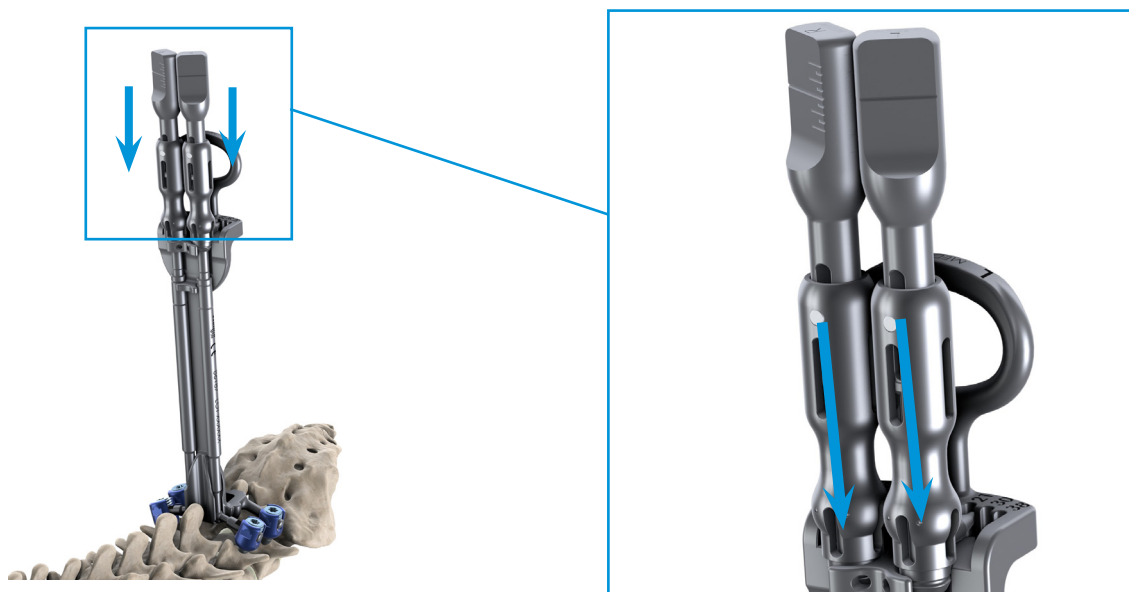

Figure 24: Slide down on the collar of each Superior Crossbar
- iii. Slide down on the collar of the Superior Crossbar until it locks into an IPD slot on the Gauge Handle with a clicking sound. The IPD numbers correspond to the size (21, 30, 38) of the TOPS Motion Implant (Figure 24). Place and tighten the set screw. Repeat this step for the contralateral Superior Crossbar.